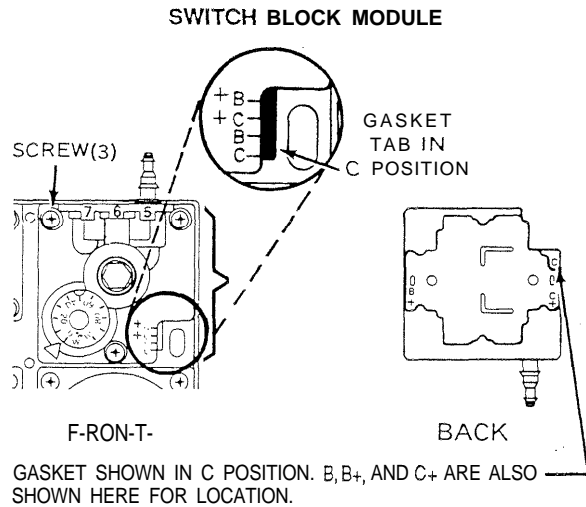

Fig. 17. Integral Action Cut-Off and Gage Function Gasket Position
1. Check the position of the gasket tab (Fig. 17). The position of the gasket located under the switch block module determines the function of the field-installed gage on the switch block module and determines if the integral action cut-off function is enabled or disabled. See Table 2 for factory and field settings.
2. Loosen the three screws securing the switch block module and remove the module. Remove the gasket and note the symbols embossed on the back of the module (Fig 17).